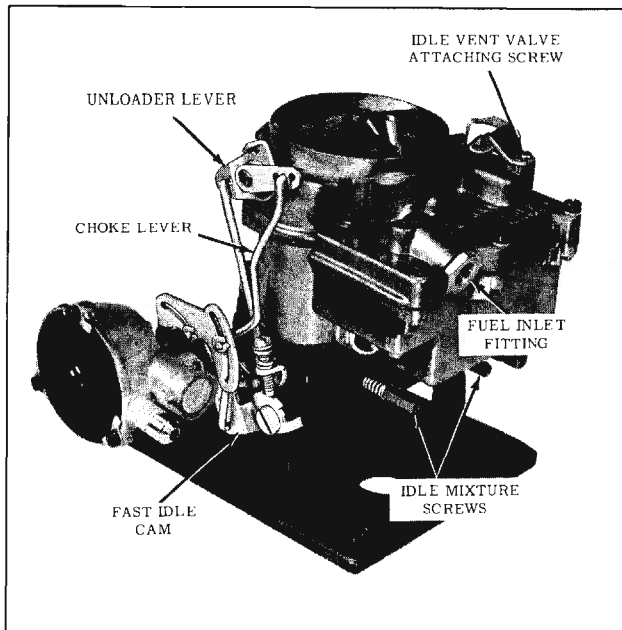

Fig. 9-37 2GC Carburetor
1. Mount carburetor on Holding Fixture BT-30-14 or J-5923-B. (Fig. 9-37)